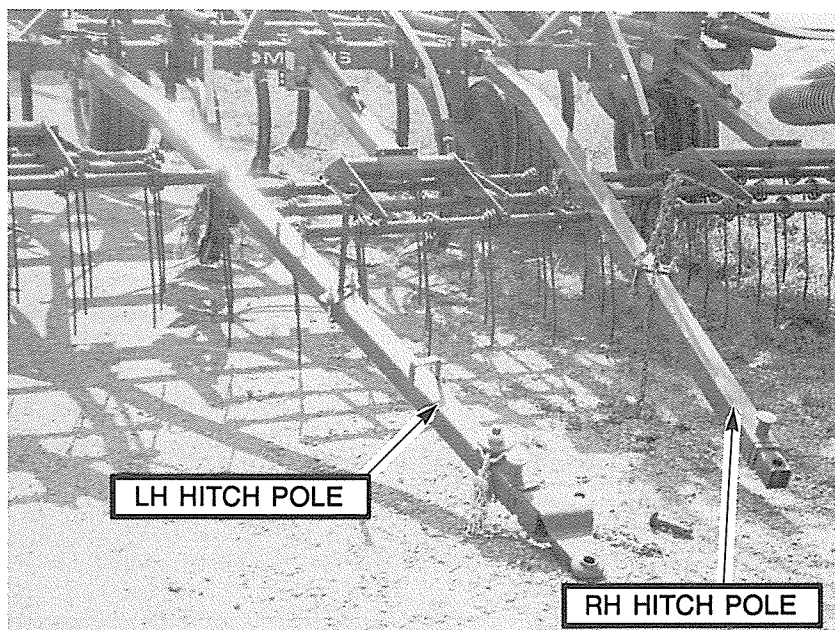

Figure 14
- (d) Mount the L. H. Hitch Pole to the L.H.S. of the cultivator and the R.H. Hitch Pole to the R.H.S. of the cultivator. (See Fig. 14).